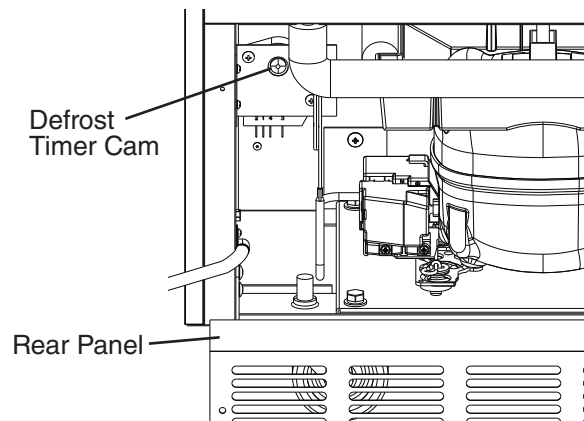

Fig. 20
- 1) Make sure the appliance is unplugged, then remove the rear panel. See Fig. 20.